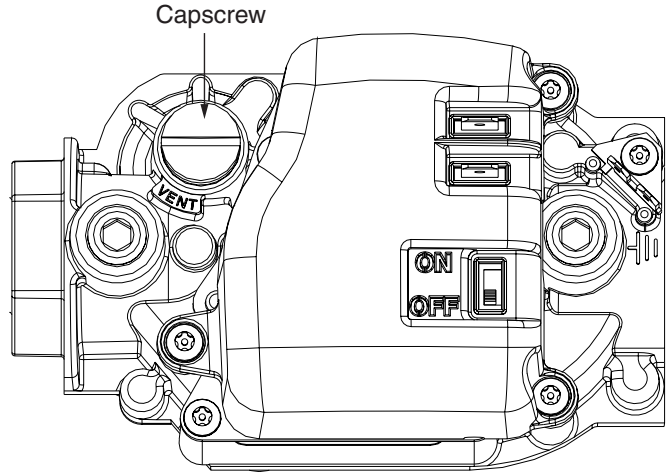

Figure 2. Single Stage Gas Valve
5. Set the gas valve switch or knob to the OFF position. See Figure 2.